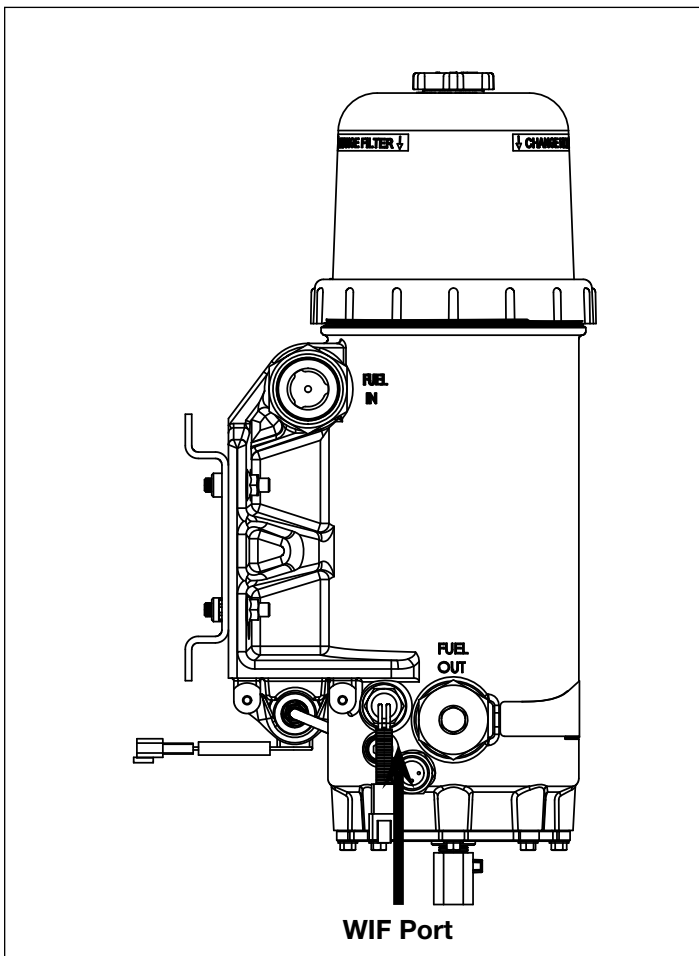
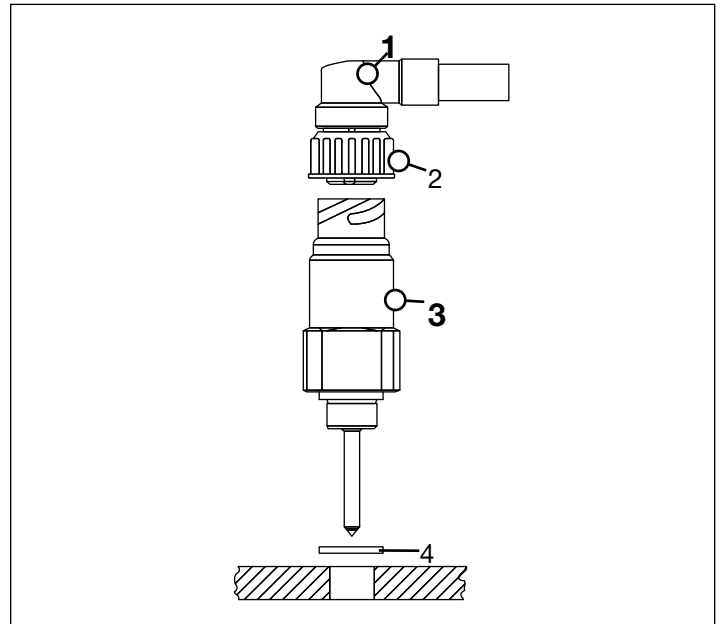

Figure 3 - WIF Port Location
Figure 4 - WIF Sensor Installation
1. Screw the WIF sensor (See Figure 4) (3) with the sealing ring A18x22 (4) in the Industrial Pro WIF sensor port (See Figure 3) by hand.